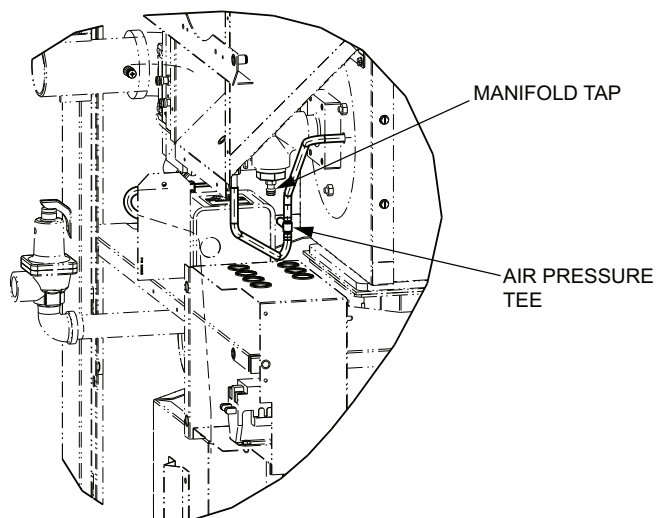

Fig. 45: Air Pressure Tee
4. Attach (1) 12" scale manometer near the fan-proving switch. Pull black cap from air pressure tee as shown in Fig. 45 and connect the manometer. NOTE: Retain caps for reinstallation later.
1. Check blower suction using the manometer attached to the air pressure tee as shown in Fig. 45, with the heater firing at 100% input. The reading should be as noted in Table S for both natural and propane gas.